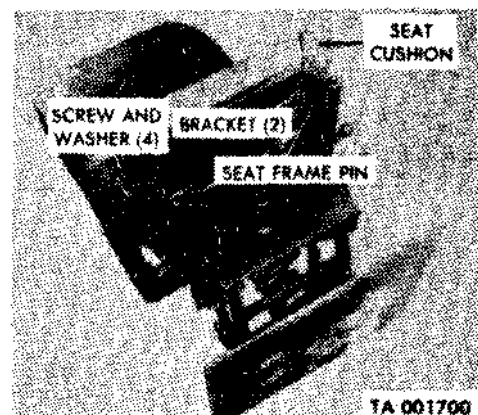

Figure 2-219.4. Driver's seat cushion removal and installation.
*a. Removal* (fig. 2-219.4). Remove four screws and washers securing cushion mounting brackets to underside of seat cushion. Remove seat cushion from seat frame.
*b. Installation* (fig. 2-219.4). Position cushion on seat frame. Position cushion mounting brackets on seat frame pins and secure brackets to seat cushion with four screws and washers.